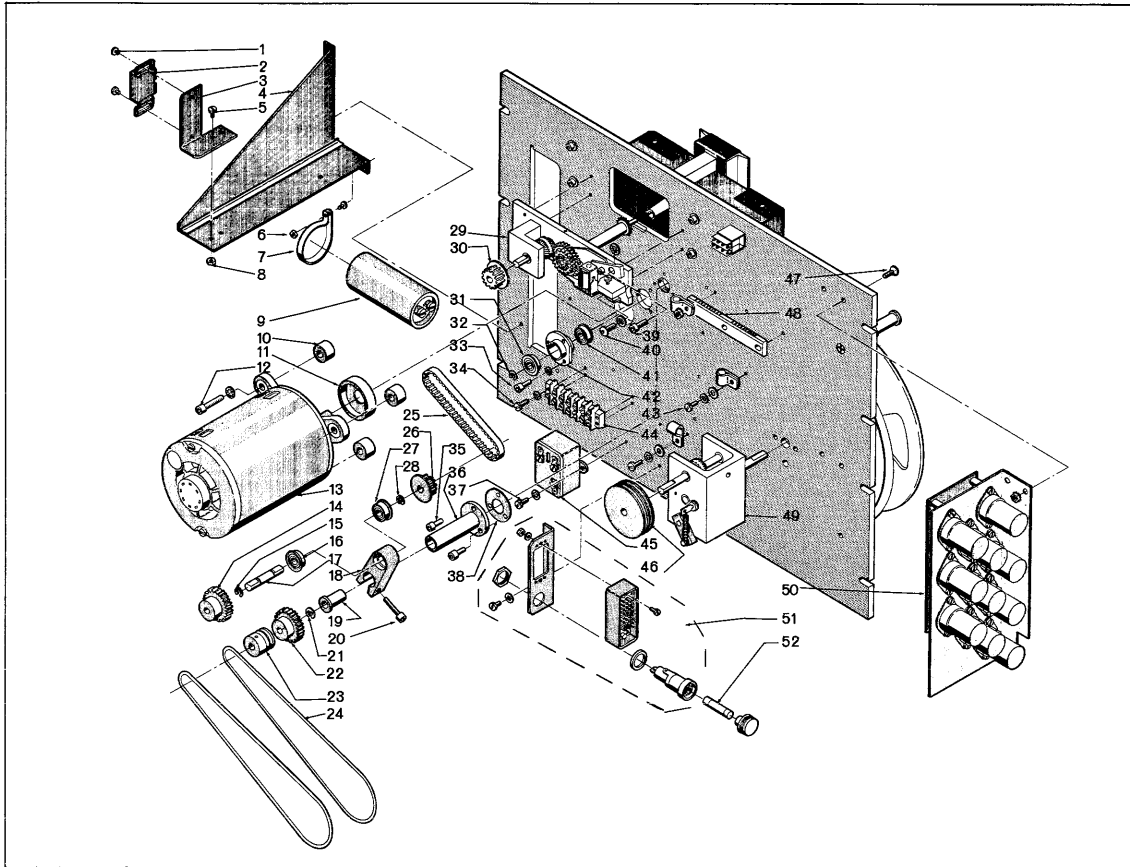

Figure 48
- 2 Items 7 and 41, together with wires to Taper Pin Board #320301 (Figure 48) constitute Cable Assembly #334490.